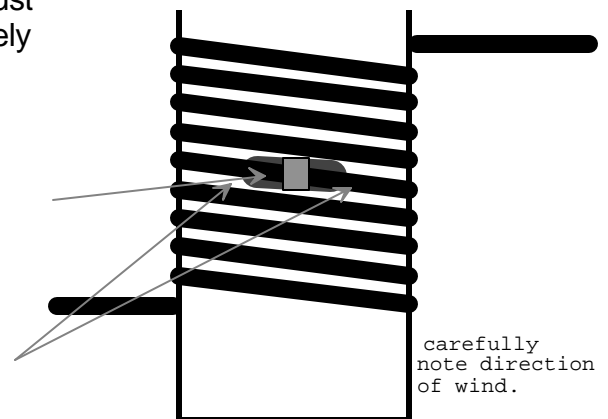

fig. 1
1. New cable is pre-bent at a certain spot. Note that the bend is not exactly in the middle, so that one end is slightly shorter than the other. Push the bend into Adjuster Pipe hole so that the shorter end leads to back of machine. *(After winding, the cable will leave pipe at bottom as in fig. 1 and the shorter end will go towards front of machine)*
5. Wrap the shackle end around pipe so as to follow a left hand thread as shown in fig. 1.